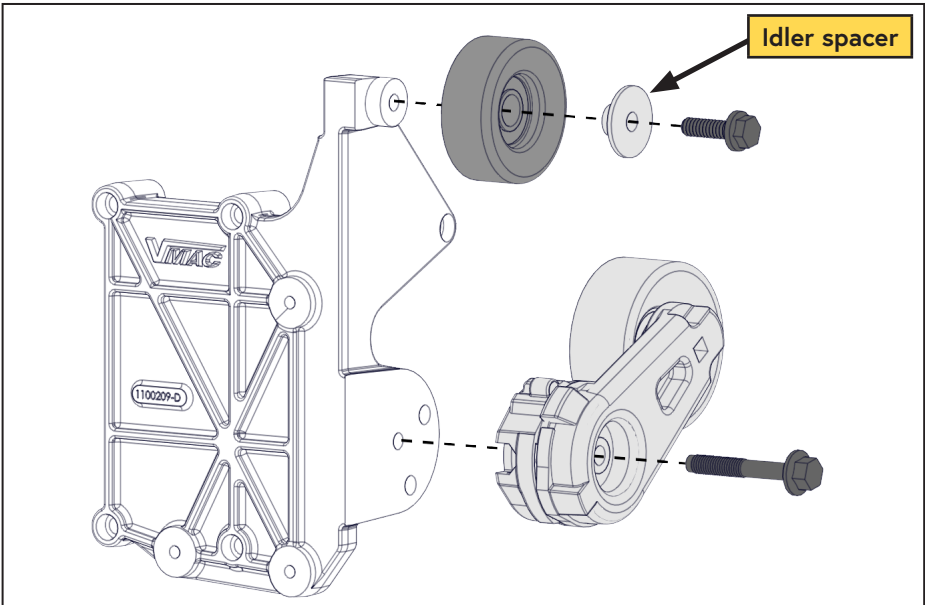

Figure 12 — Install idler, idler spacer and tensioner
- Apply Loctite 242 (blue) and install the idler, idler spacer and tensioner onto the main bracket. Torque the fasteners to specification (Figure 12).